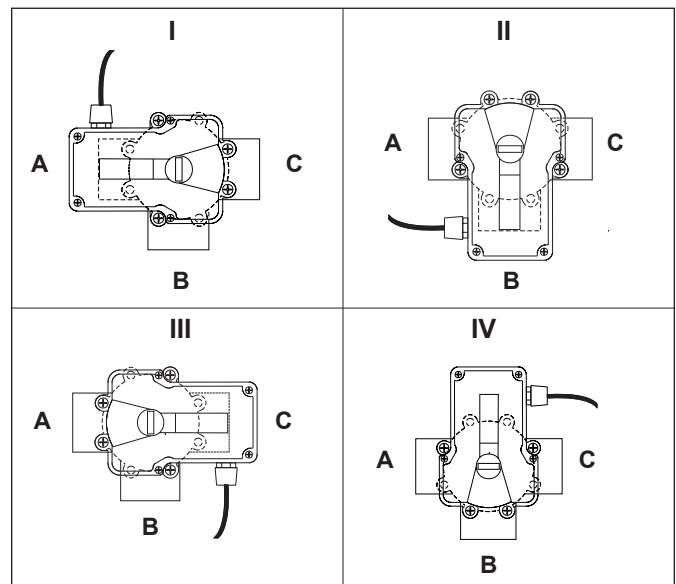
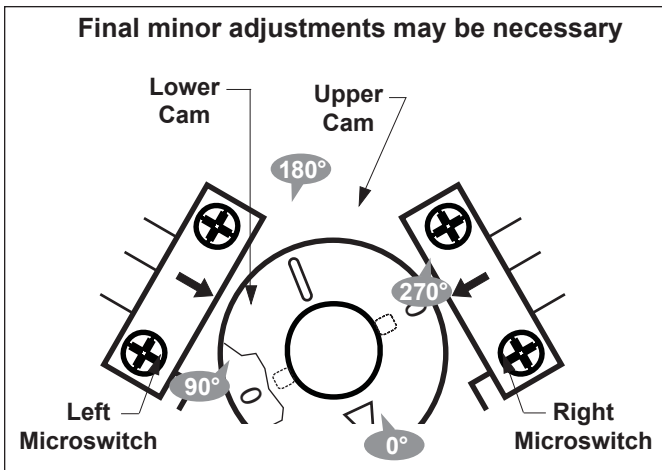

Figure 9. JVA Mounting Positions.
Figure 10. JVA Cams
NOTE Before resetting cams, if the valve is plumbed in **Standard Plumbing** position *and* the actuator is in **Standard Mounting** position *there is no need for resetting the cams* (see Figure 9). If a port other than "B" is plumbed as the common port or if the actuator is mounted other than **Standard Mounting**, the cam setting must be changed so the actuator shaft and the valve diverter rotate properly. Refer to the Cam Setting Chart on page 8 for proper settings.
2. Remove the four (4) Phillips head screws that secure the actuator lid and then remove the lid.
- Important** - Rotate the actuator shaft so the arrow mark on the top cam aligns with the microswitch actuator (bottom cam arrow mark should also align with the bottom microswitch actuator, see Figure 10). Locate the mounting position for the actuator (as per Figure 9, the mounting position will be either I, II, III, or IV). Next, determine what valve port is the common or inlet port (as per Figure 9, the common port will be either A, B, or C). Then refer to the Cam Setting Chart below to determine what the cam settings should be. For example, if the actuator is in JVA mounting position "I", and the common port on the valve is port "A", the cam settings would be 90° for the top cam and 180° for the bottom.